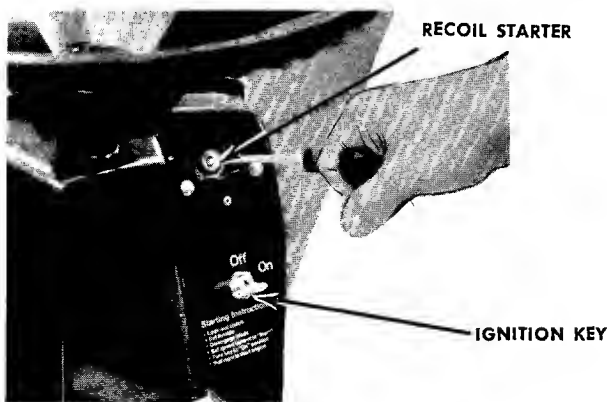

FIGURE 13. RECOIL STARTER
- Turn the ignition key to the ON position. See figure 13.
- Slowly release the recoil starter and lock it into the dashboard as shown in figure 13.